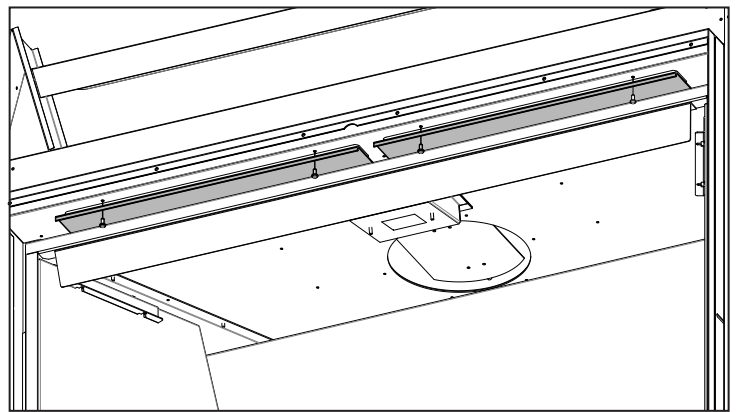

Figure 35: CSS Cover Plates
- Step 4.** Remove the two cover plates on the ceiling of the unit. These are secured by four (4) T-20 screws. See Figure 35.